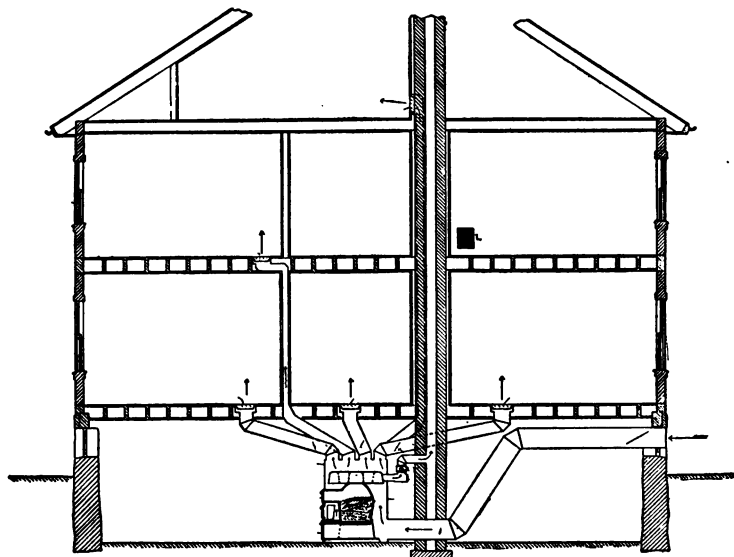

FIG. 38.—HOT AIR HEATING SYSTEM
**83. Hot Air Heating System.** In heating a house by hot air (Fig. 38), there is a large stove called a *fire box*, which is surrounded by a brick or galvanized iron *jacket* forming a